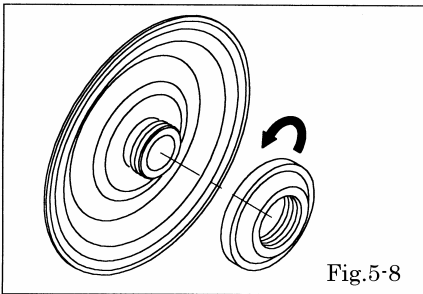

Fig.5-8
- * Fix the diaphragm, and turn the bushing to remove it. [Fig.5-8]